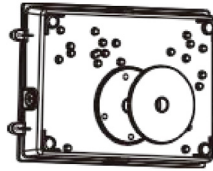

Fig. 4
6. Attach foam gasket to fixture base (between fixture and J-box/wall) (Fig. 4)